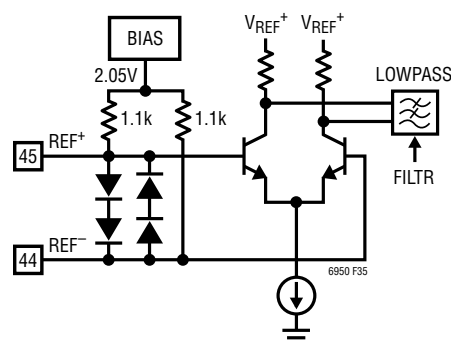

Figure 35. Simplified Reference Input Schematic
The LTC6950's reference input buffer provides a flexible interface to either differential or single-ended frequency sources. The frequency range for the reference input is from 2MHz to 250MHz. The reference input signal swing must be less than $1.5V_{P-P}$ to avoid turning on the input buffer's protection diodes (see Figure 35). If the input signal is too large, it should be attenuated. Any reference signal source may also be directly coupled (DC), as long as its common mode voltage is approximately the self-bias voltage of the input buffer (see Figure 35). If the common mode voltage is too high or low, the signal must be level shifted or AC-coupled.